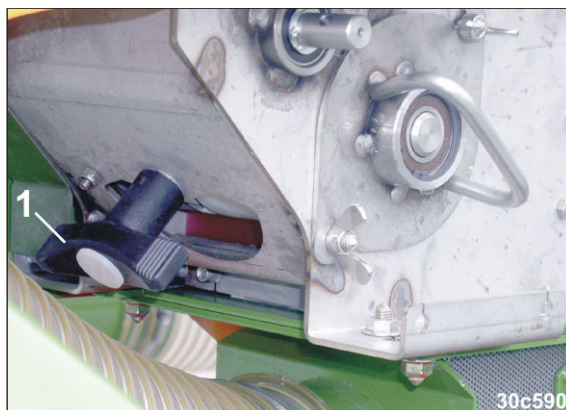

Fig. 265
- 2.1 Turn the handle (Fig. 265/1).
7. Close the residual emptying flap(s) (Fig. 265/1).